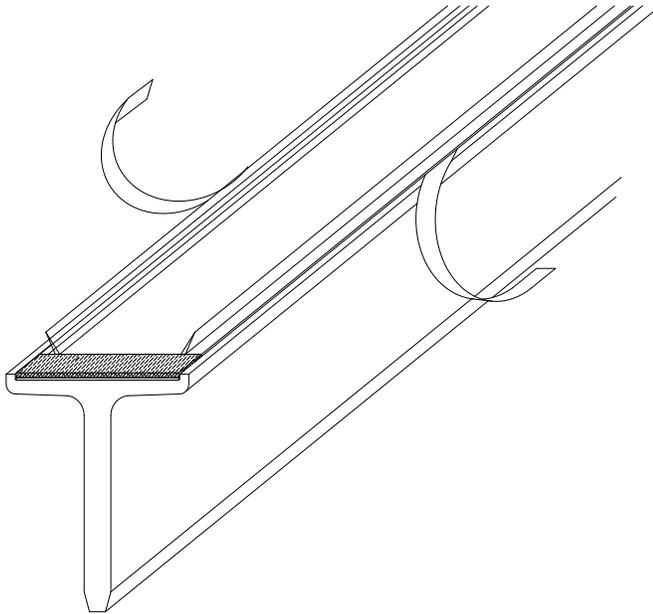

Figure 5
1. Refer to the floor plan and select a starting point for assembling the runs (preferably on the end of a bank of runs at the intersection of the gate/stall front and outside division panel), which is best for your application. Once selected, identify the exact location of the outside corner of that run. Mark both sides of the corner on the floor with a chalk line (or other preferred method) as shown in Figure 5. **Important:** Make sure that the two lines are perpendicular and in the exact final location desired for the corner of your kennel.
3. Apply the Silvis Seal to the "T" by removing approximately 2 ft. of backing tape. Starting at the end blocker, apply the Seal to the recessed channel in the "T" being careful to orient the Seal in line with the "T". Lay the rest of the Seal in the recessed channel. Carefully pull the remaining backing tape from the "Seal" and using light pressure adhere it to the aluminum as shown in Figure 5.